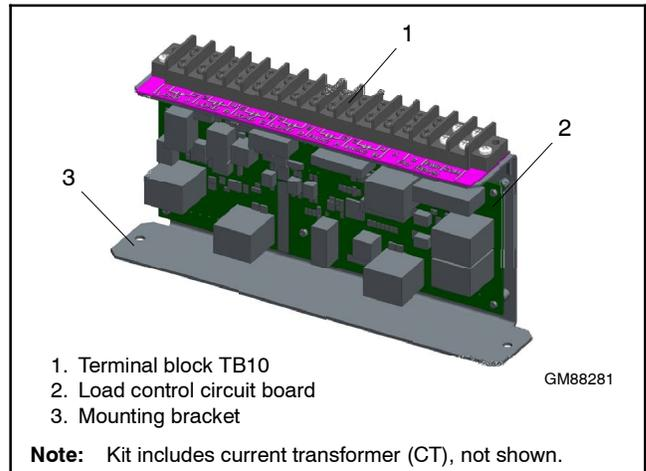

Figure 2-3 Load Shed Assembly GM88281-1 (mounts inside the transfer switch enclosure)
- The optional Load Shed Kit mounts inside a Model RDT or RXT transfer switch. Figure 2-3 shows the load shed assembly.